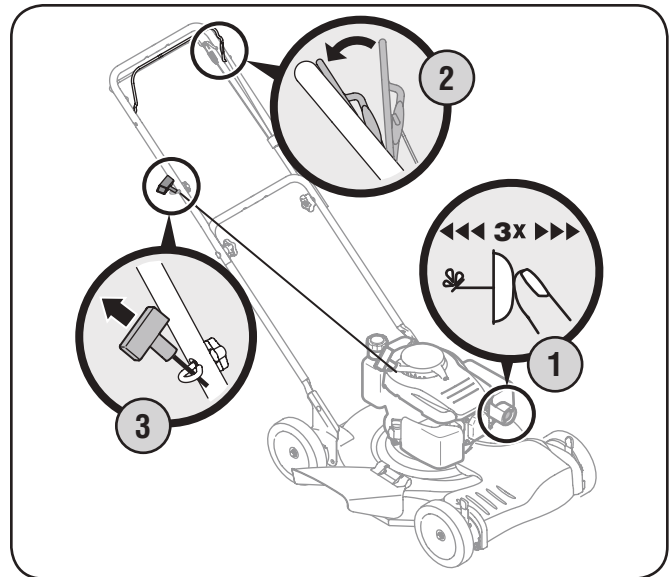

Figure 5-1
1. Push primer 3 times. Wait about two seconds between each push. See Fig. 5-1. In temperature below 50°F, prime 5 times. After the engine is warmed up, one prime may be needed for all temperatures.
3. Pull the recoil starter lightly until resistance is felt, then pull rapidly to overcome compression, prevent kickback, and start the engine. Repeat if necessary. See Fig. 5-1.